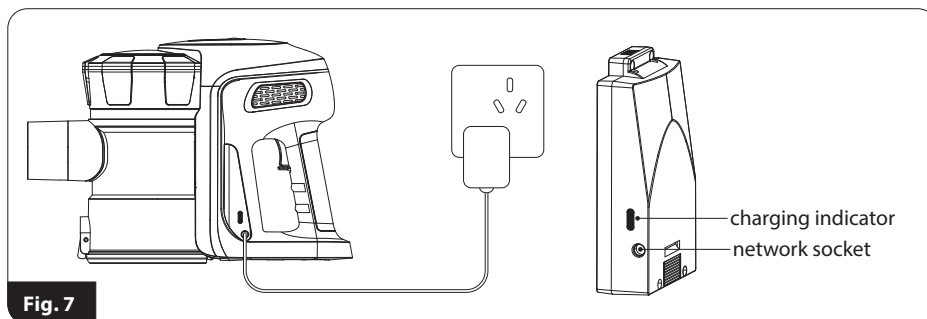

Fig. 7
2. Connect the charger cable (25) to the charger socket (6) and the charger to the mains socket (fig.7) - the charging indicator (7) will light up red to indicate charging.